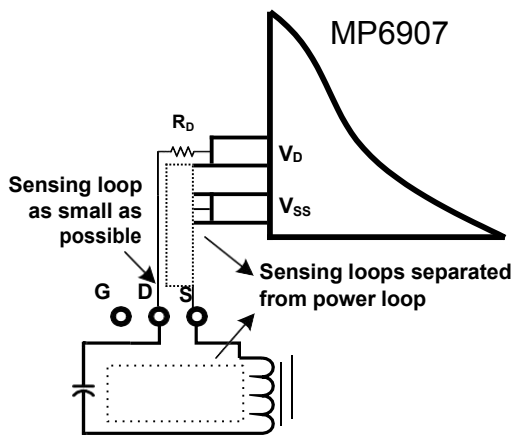
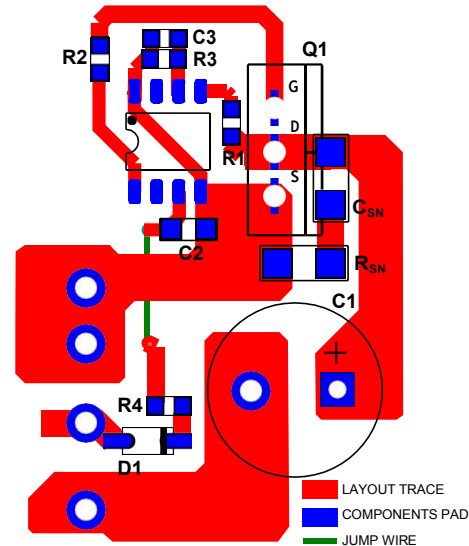
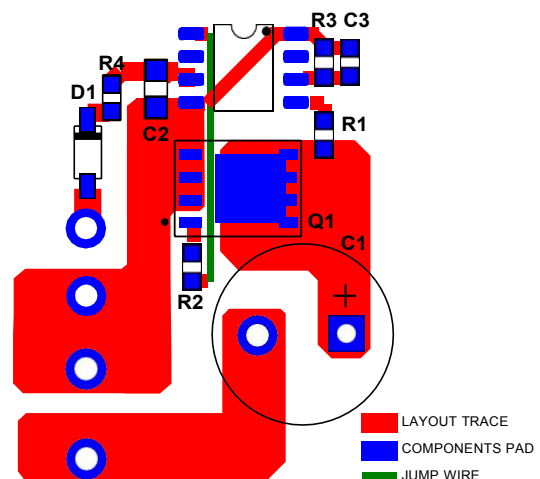

Figure 17: Voltage Sensing for V_D/V_{SS} on MP6907
Figure 18: Layout Example with TO220 Package SR FET
Figure 19: Layout Example with PowerPAK/SO8 Package SR FET
Efficient PCB layout is critical for stable operation. For best results, refer to Figure 17, Figure 18, and Figure 19, and follow the guidelines below.
- 4) Keep the IC out of the power loop to prevent the sensing loop and power loop from interrupting each other (see Figure 17).
Figure 18 shows a layout example of a single layer with a through-hole transformer and a TO220 package SR FET. R_{SN} and C_{SN} are the RC snubber network for the SR FET.
Figure 19 shows another layout example of a single layer with a PowerPAK/SO8 package SR FET, which also has a minimized sensing loop and power loop to prevent the loops from interfering with one another.